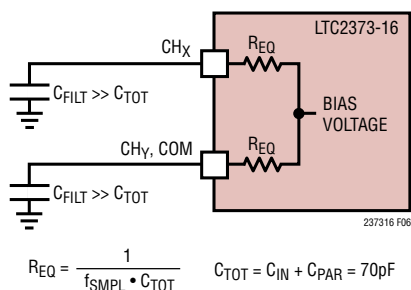

Figure 6. Equivalent Circuit for the MUX Analog Inputs of the LTC2373-16 at 1Msps
**Fully Averaged:** Consider the case where MUXOUT+/- is directly wired to ADCIN+/-. If the coupling filter's capacitors (CFILT) at the MUX analog inputs are much larger than the sum of the ADC's sample capacitors (50pF) and the MUX's output summing node capacitances (20pF), then the sampling glitch is greatly attenuated. The driving amplifier effectively only sees the average sampling current, which is quite small. At 1Msps, the equivalent input resistance is approximately 14k (as shown in Figure 6), a benign resistive load for most precision amplifiers. However, resistive voltage division will occur between the coupling filter's DC resistance and MUX's equivalent (switched-capacitor) input resistance, thus producing a gain error.